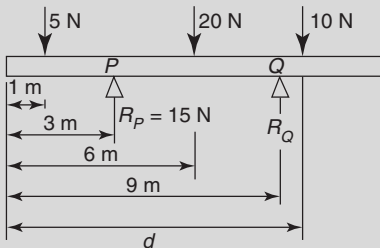

Figure A2.2
3. For the beam shown in Figure A2.2 calculate (a) the force acting on support  $Q$ , (b) distance  $d$ , neglecting any forces arising from the mass of the beam. (7)